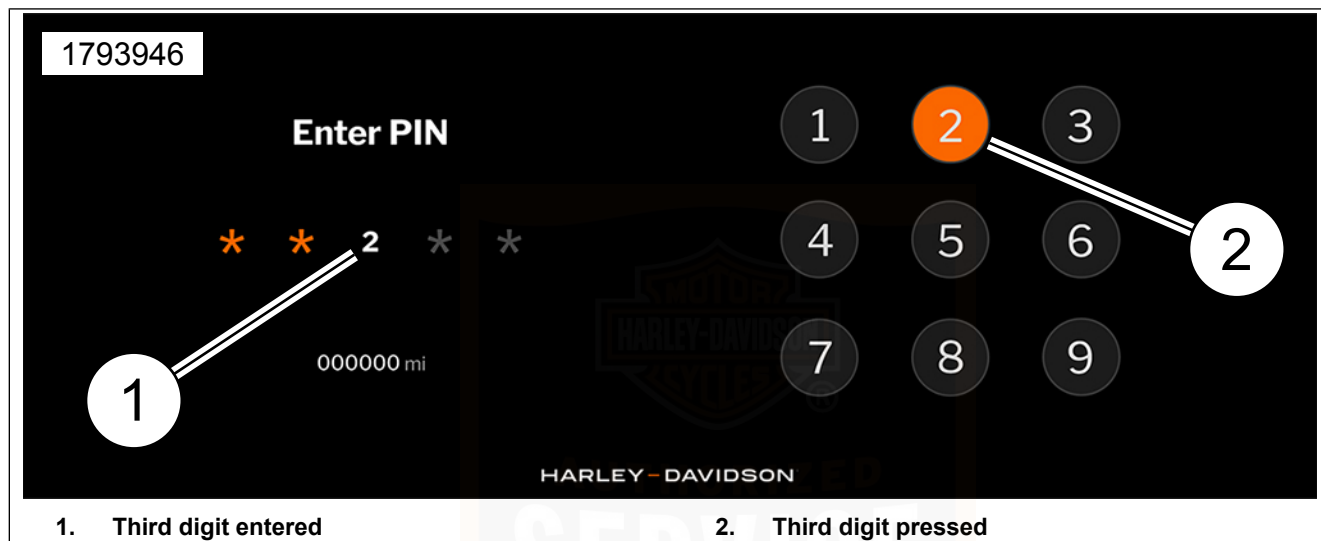
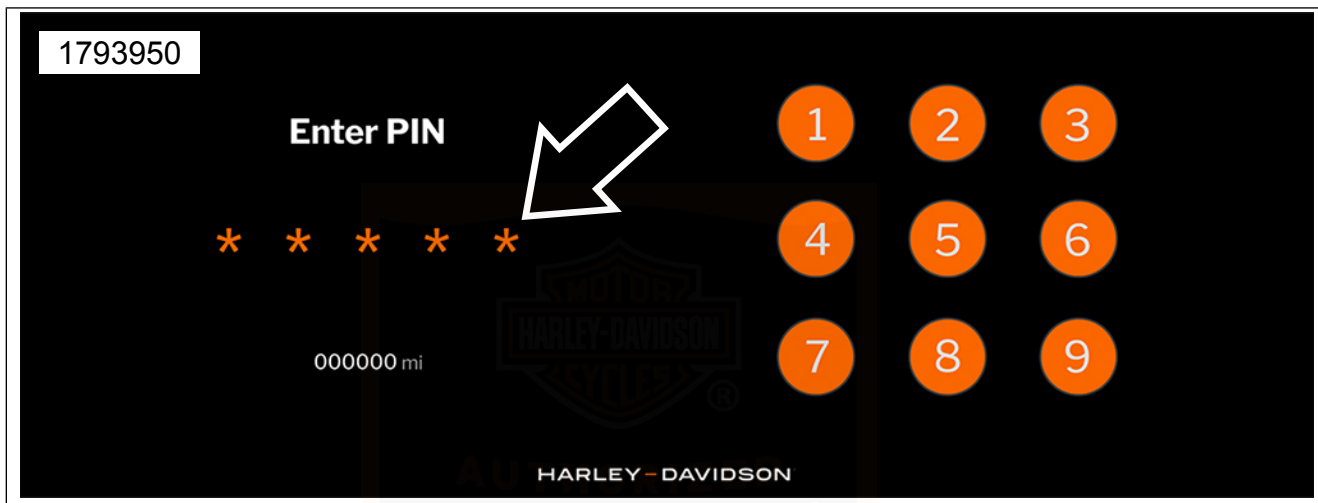

Figure 19. Entering PIN Digits
Figure 20. Five Digit PIN Entered
2. See Figure 19 and Figure 20. Using the on-screen keypad, enter the complete five-digit PIN.